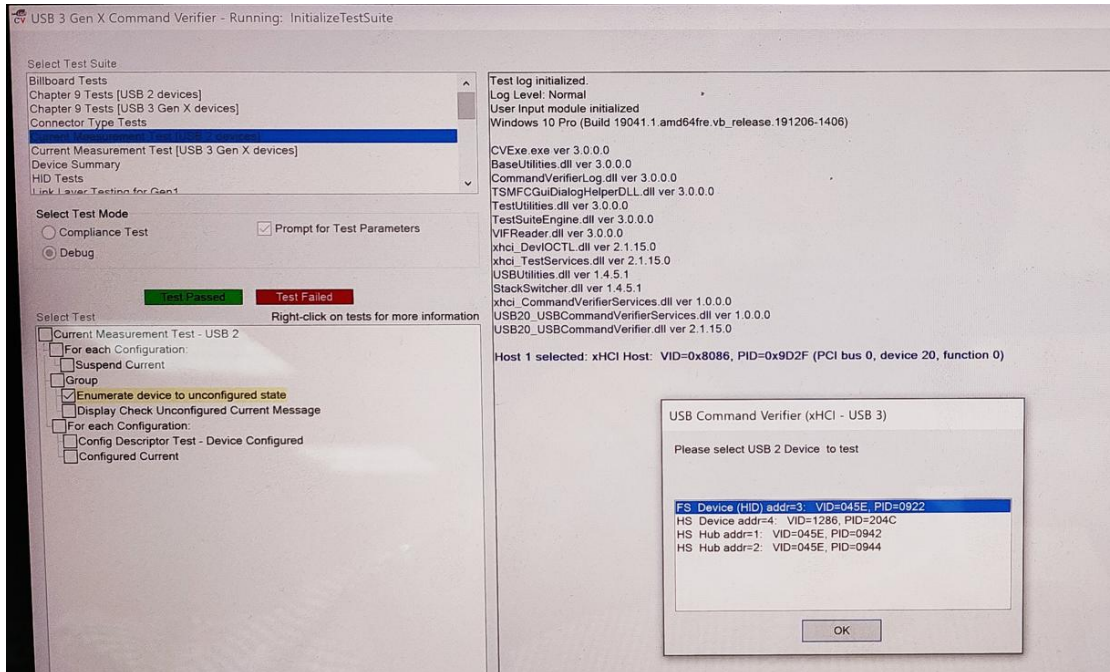

FIGURE 7.5: SELECT AND EXECUTE TD 4.9.1 ENUMERATE DEVICE TO UNCONFIGURED STATE TEST IN CV TOOL
4. Refer to Figure 7.5 below on the following: